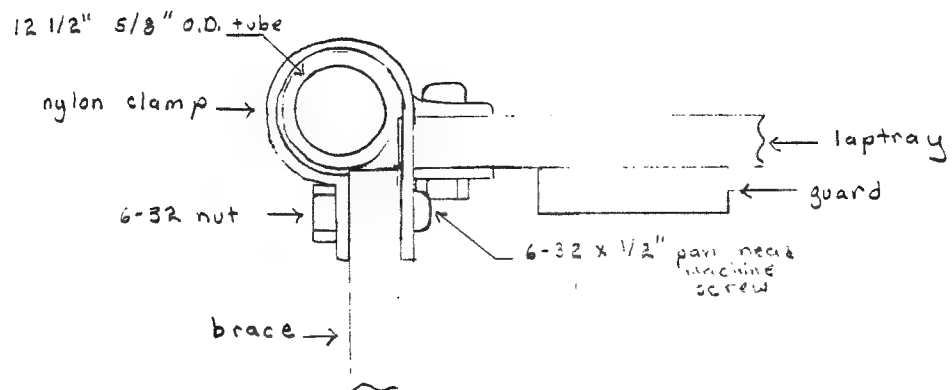

Fig. 8 Front view of nylon clamp assembly
- 3) Slide 23 of the nylon clamps onto the 12 1/2" arm of 5/8" O.D. PVC tubing attached to the elbow. Begin with a clamp for the brace and alternate the orientation of the clamps so that the brace is aligned with the inside part of the tube and the support is aligned to the bottom part of the tube (Fig. 8).
- 5) Using 6-32 X 1/2" pan head machine screws and nuts, attach the support to the 12 1/2" arm and the brace to the 11 1/2" arm, with the heads of the screws facing the top of the support and the inside of the brace (Fig. 8).